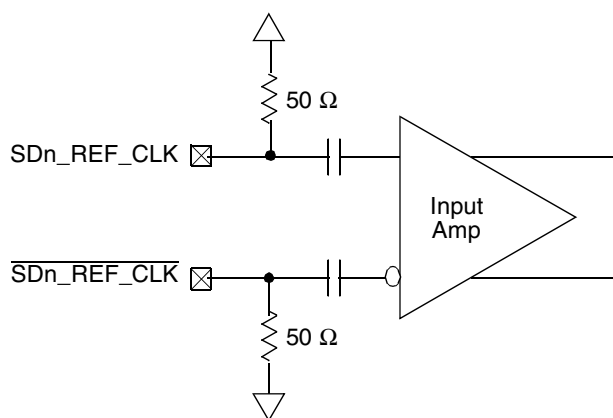

Figure 45. Receiver of SerDes Reference Clocks
Figure 45 shows a receiver reference diagram of the SerDes reference clocks.
- The  $SDn\_REF\_CLK$  and  $\overline{SDn\_REF\_CLK}$  are internally AC-coupled differential inputs as shown in Figure 45. Each differential clock input ( $SDn\_REF\_CLK$  or  $\overline{SDn\_REF\_CLK}$ ) has a 50- $\Omega$  termination to  $SGND\_SRDSn$  (xcorevss) followed by on-chip AC-coupling.